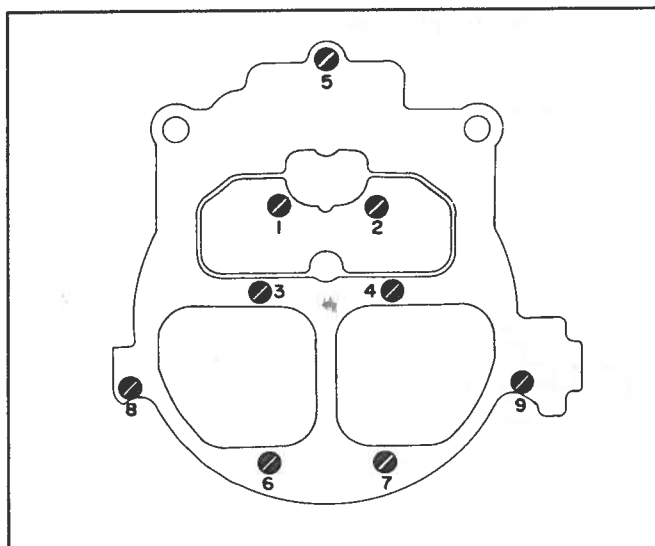

Figure 7-20. Air-Horn Screws
5. Remove air-horn screws and air horn (Figure 7-20 and 7-21).